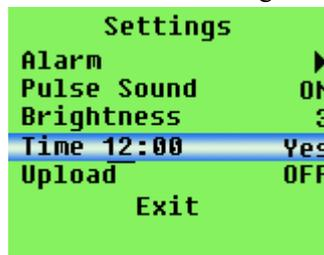

Figure 8.
b. When the "Start" is displayed on the menu, if the memory still has the former data in storage, the "Do you really want to recover the memory" dialog box will be displayed when pressing the "menu" button, then press the "up button" or "down button" to choose setting, then press the "menu button" to confirm setting, the dialog box will be displayed as figure 8: It needs to set the starting time for data storage by users, users can change the setting value by pressing the "up button" or "down button", and confirm the setting value by pressing the "menu button", the black cursor will move to